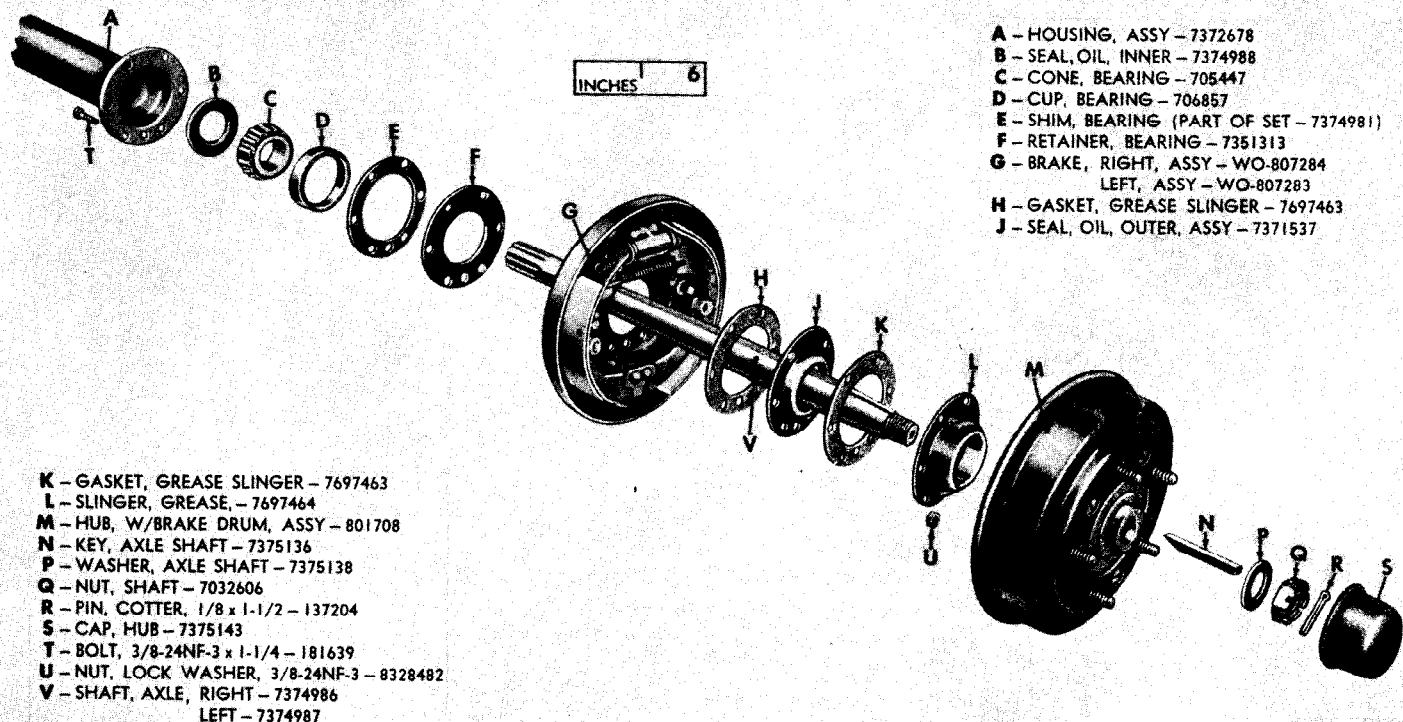

Figure 127. Rear axle assembly—disassembled view.
b. *Remove Brake Assembly* (fig. 127). Remove hub cap (S), cotter pin (R), shaft nut (Q), and axle shaft washer (P). Remove hub with brake drum assembly (M) with puller. Remove axle shaft key (N) from axle shaft. Remove six bolts (T), lockwasher nuts (U), brake assembly (G), grease slinger (L), outer oil seal assembly (J), and grease slinger gaskets (H and K). Remove bearing retainer (F) and bearing shims (E), noting thickness of shims removed.
c. *Remove Axle Shaft* (fig. 127). Pull axle shaft out of housing. Remove bearing cup (D) and bearing cone (C) from axle shaft. Remove inner oil seal (B) from housing assembly (A).